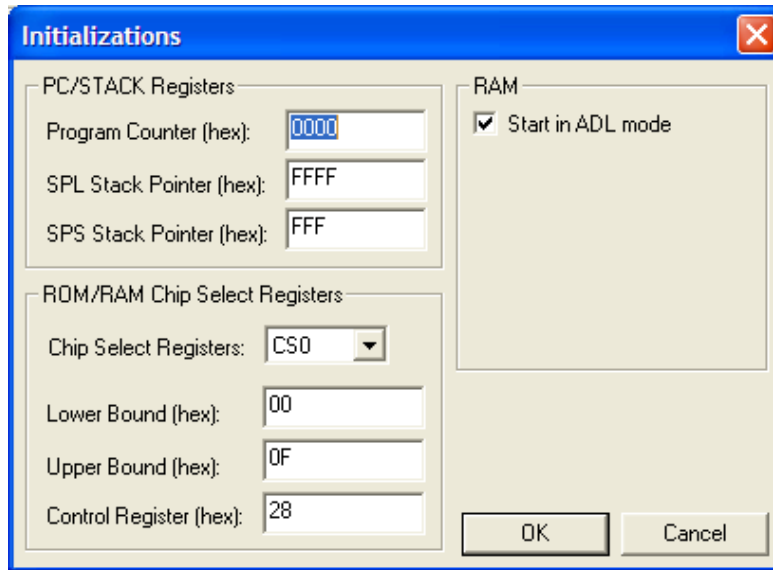

Figure 5. The Initializations Dialog Box
- a. *Initializations*—please see Figure 5.